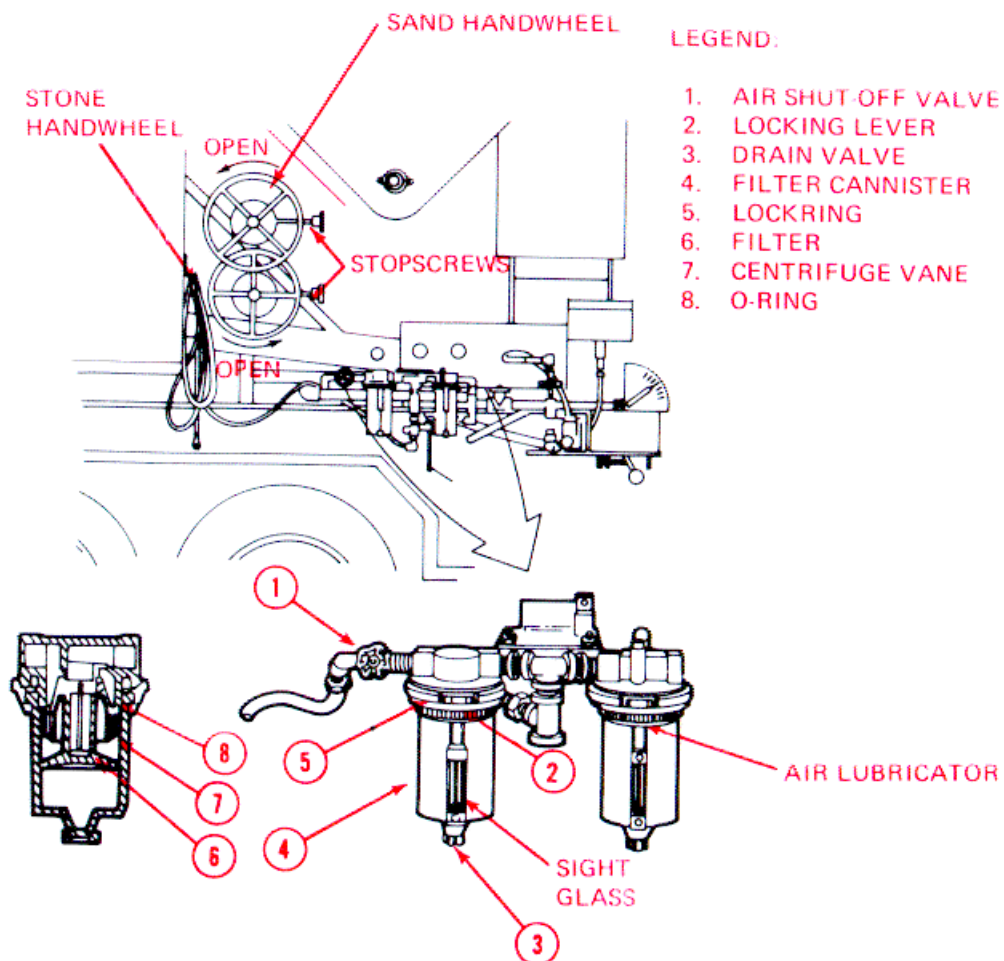

Figure 3-24. Air Filter Service.
- (1) Turn off air shut-off valve (1, fig. 3-24).
- (2) Open drain valve (3).